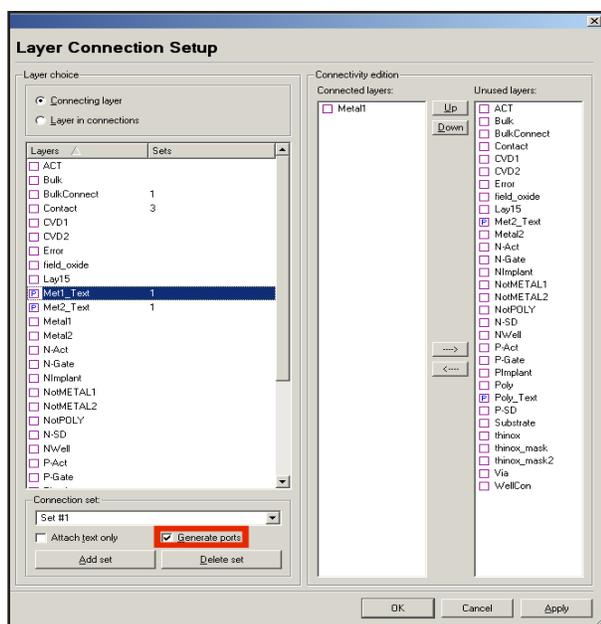

Figure 2. Configuration of the ports generation.
- These labels must be designed using layers which are configured to automatically generate some ports. To do this, select “Setup >> Technology >> Layer Connection Setup” from the Guardian LPE “Layer Connection setup” panel. The highlighted option in Figure 2. (see below) has to be activated. With this setup all labels created with layer “Met1\_Text” will generate a port